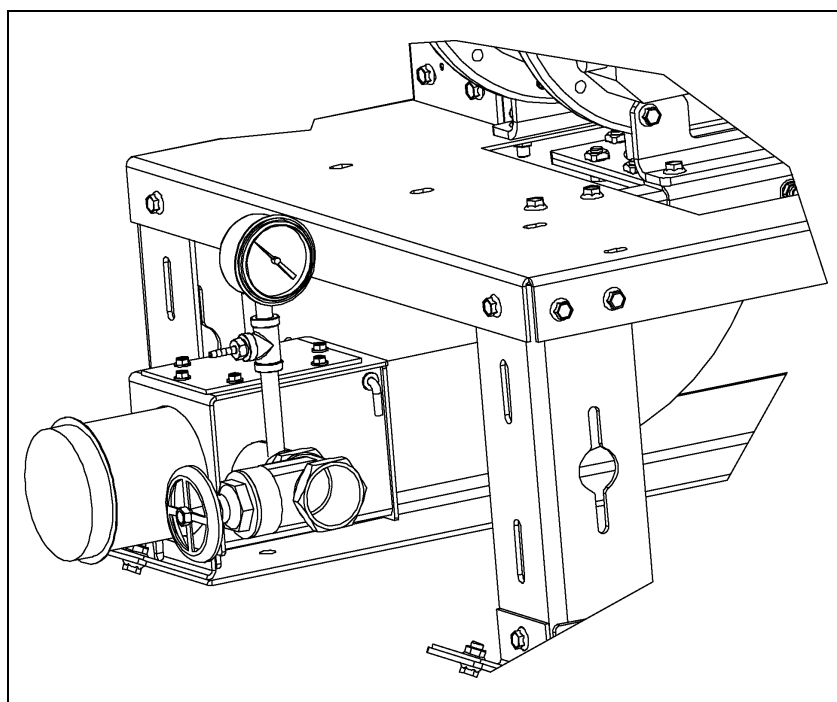

Figure 7M
11. Remove 1/4" pipe plug in gate valve pipe. Install gauge assembly and attach air hose. (See Figure 7M.)